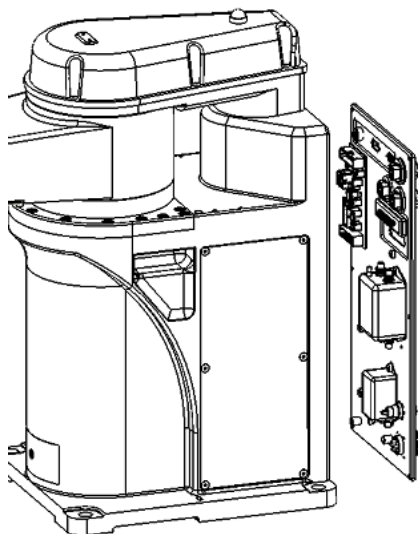

Figure 4-7 Open the interface panel
Step 3 Push the upper end of the interface panel outwards, as shown in Figure 4-7.